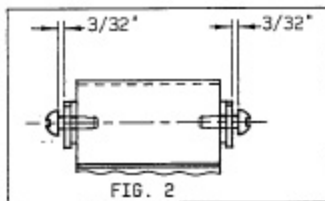

FIG. 2
4. With a screwdriver, rotate (clockwise) the two screws so they enter the blind holes molded in each side of the toggle handle. Tighten the two screws evenly so that when they engage the bottom of the blind holes, they project an equal distance (3/32"—See Fig. 2) above the tapped surface. Do not over torque (max torque 2 lb.-in.)